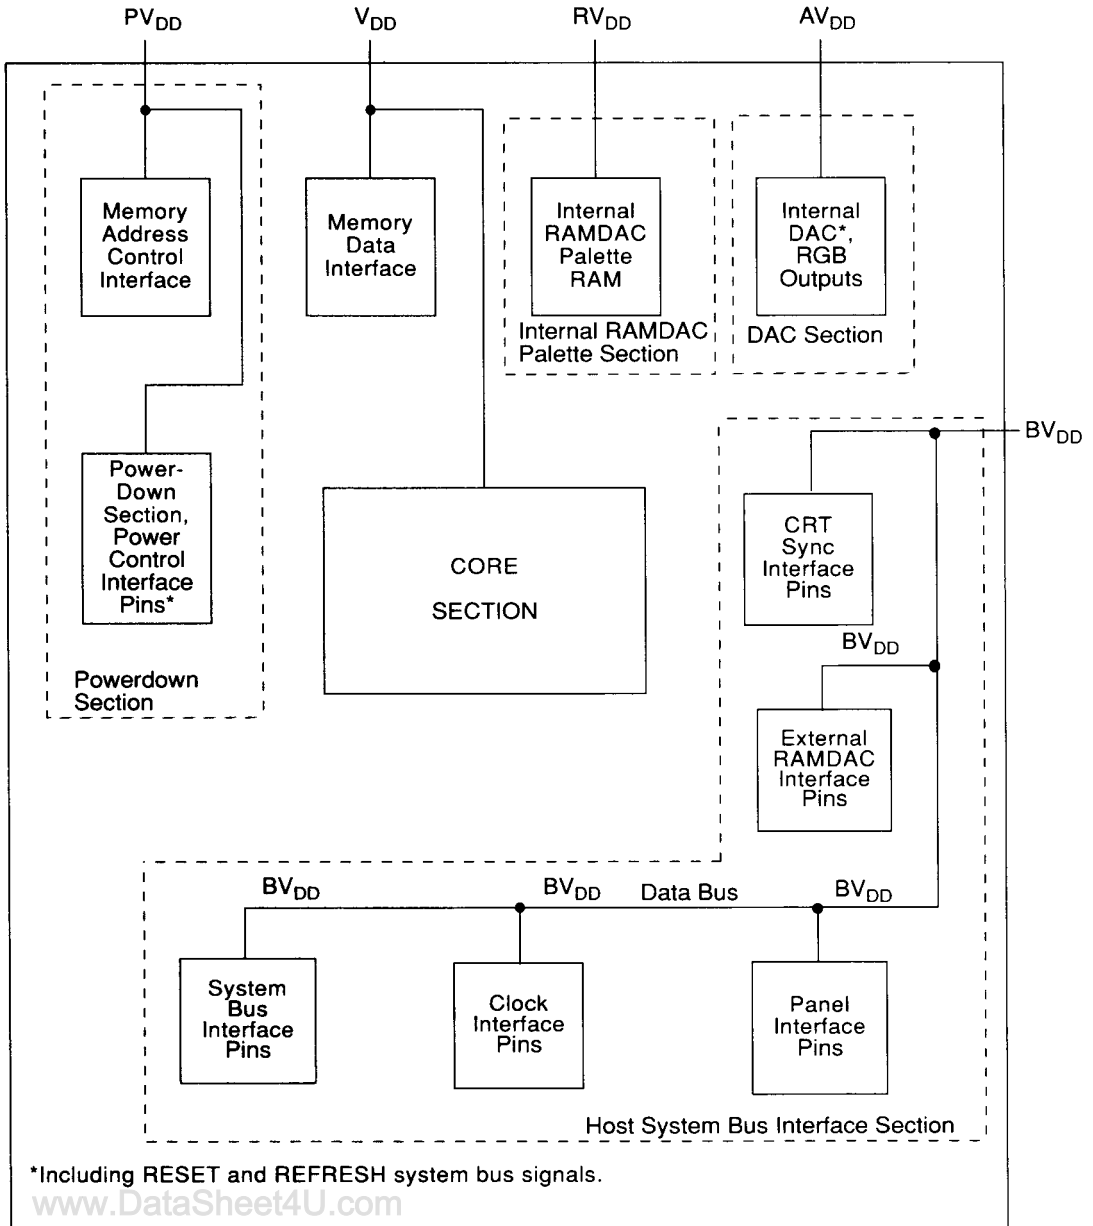

FIGURE 6-2 POWER DISTRIBUTION BLOCK DIAGRAM
- Power Distribution Block Diagram (Figure 6-2)
For the purpose of power distribution, the WD90C26 is divided into functional sections. Each section is provided with its own power input pins and given a distinct designator as shown in Figure 6-2. The separate power distributions sections are: